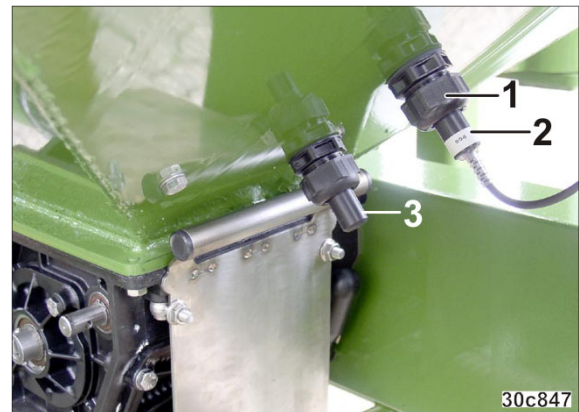

Fig. 176
2. Release the nut (Fig. 176/1).
3. Detach the fill level sensor (Fig. 176/2), insert it in the intended connection and secure it in place.
4. Fit the dummy (Fig. 176/3), which has no function, into the vacated opening and secure.